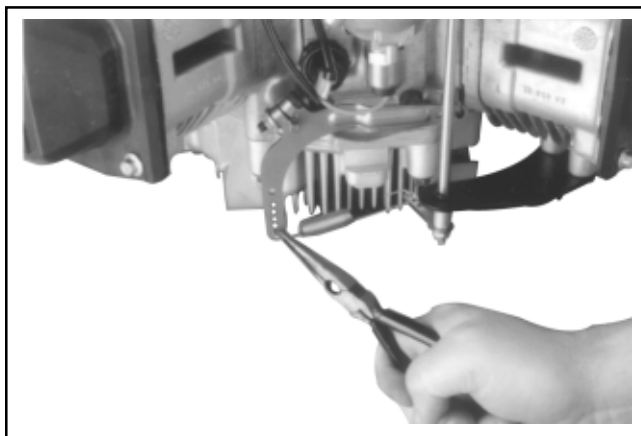

Figure 11-72. Connecting Governor Spring to Governor Lever.
10. Connect the Oil Sentry™ Indicator light wires. Attach governor spring to governor lever. See Figure 11-72 and appropriate charts on pages 11.22 through 11.24.